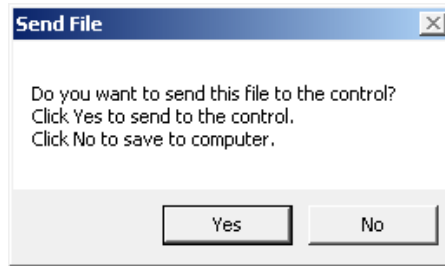

Figure 3-8 Send User File Screen
- From the Manage Account Permissions screen menu bar select **File/Save** or **Save As**. IPScm will display a "Send File" screen to allow the user to save the file to the unit or to the computer (Figure 3-8).